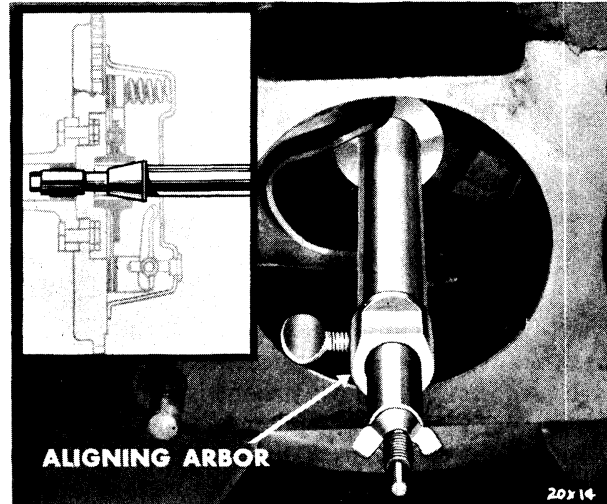

Fig. 3—Clutch Disc Aligning Arbor
- (1) Coat the transmission drive pinion pilot bushing (in end of crankshaft) with medium short fiber wheel bearing grease (about a half teaspoonful). Place grease in O.D. of cavity at inner end of bushing.
- (2) Clean the surface of the flywheel and pressure plate thoroughly, making certain that all oil or grease has been removed.
- (3) Hold the clutch disc, pressure plate and cover in mounting position, with the springs on the disc facing away from the flywheel. Insert a spare transmission drive pinion clutch shaft through hub of disc and into the pilot bushing. If this item is not available, Tool C-360 may be used, as illustrated in Figure 3.
- (4) Insert the clutch cover attaching bolts (after aligning balance punch marks) but do not tighten.
- (5) To avoid distortion of the clutch cover, the bolts should be tightened a few turns at a time (alternately) until they are all tight. Tighten the bolts from 15 to 20 foot-pounds torque. Remove Tool C-360 or pinion shaft (if used).